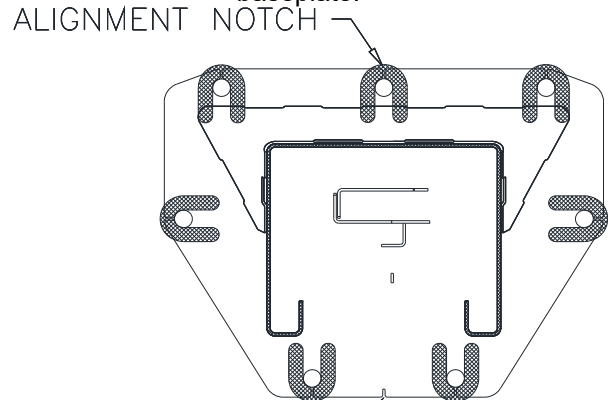

Fig. 7 – Column Shimming
- 16) Repeat steps 11 thru 13 for the two (2) anchors under each carriage.
- 17) Shim both columns to plumb using the shims provided as shown in **Fig. 7**. DO NOT shim more than 1/2" at any given point. Use a level no less than 24" in length to plumb columns.
- 20) Check idler column shimming. Use additional shims (see Fig. 7) to remove any gaps that may have been created while installing overhead beam. Tighten anchor bolts and re-check column for plumb. Torque to 150-foot pounds.